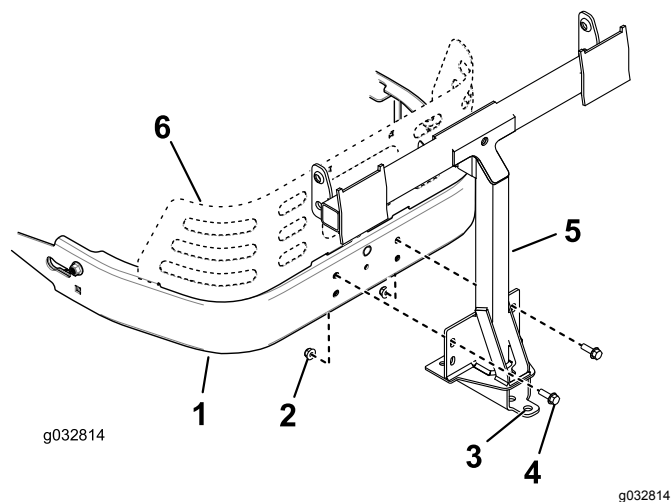

Figure 15
1. Install the pivot frame to the machine frame as shown in Figure 15. Secure the pivot frame to the machine frame using 2 bolts (5/16 x 1 inch) and 2 locknuts (5/16 inch).